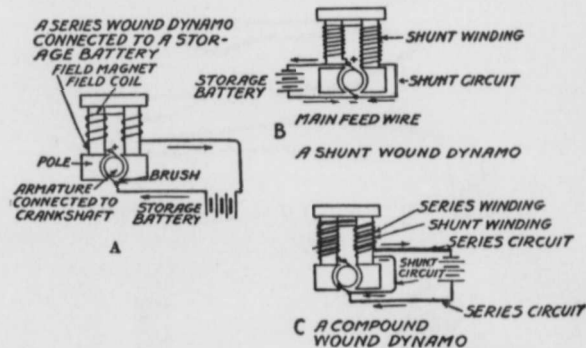

Fig. 62.—A, B and C. How dynamos are wound.
The field magnet of a dynamo can be wound in three different ways, and these are (1) *series wound*, as shown at A in Fig. 62; (2) *shunt wound* as at B, and (3) *compound wound* as at C. Now the voltage and the current